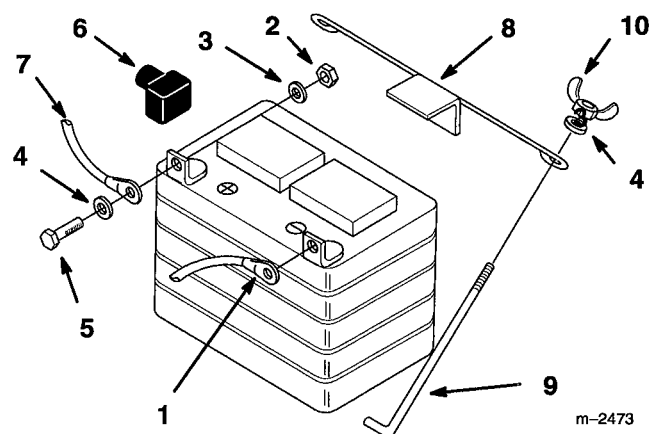

Figure 37
3. Disconnect the negative (black) ground cable from the battery post (Fig. 37).
4. Lift the rubber cover up on the positive (red) cable. Disconnect the positive (red) cable from the battery post (Fig. 37).
5. Remove the battery hold down rods (Fig. 37). Lift battery from tractor
6. Install the battery into the chassis (Fig. 37).
7. Secure battery in chassis with hold down rods, washers and wing nuts (Fig. 37).
8. Using the bolt washers and nut, connect the positive (red) cable to the positive (+) battery post (Fig. 37). Slide the rubber cover over the battery post.
9. Using the bolt, washer and nut, connect the negative (black) cable to the negative (-) battery post (Fig. 37).